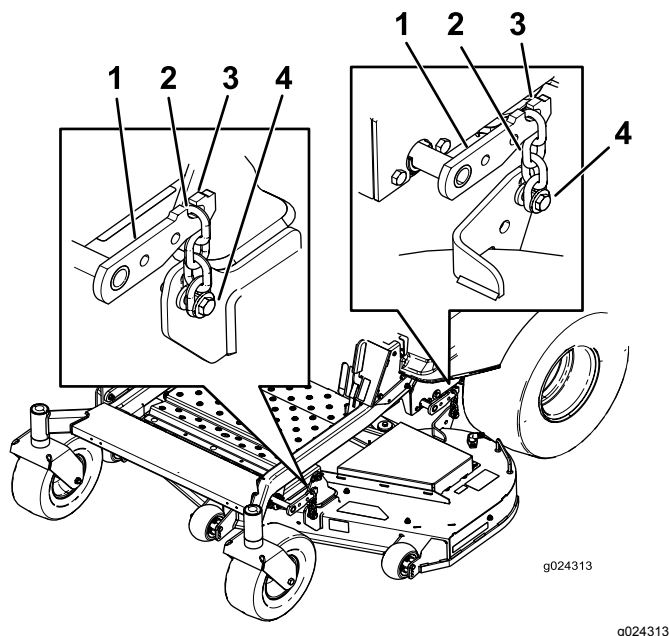

Figure 64
5. Loosen the adjustment bolts on all four corners so that the deck is sitting securely on all four blocks (Figure 64).
- Ensure there is tension on all four chains (Figure 64).
- Tighten the four adjustment bolts (Figure 64).